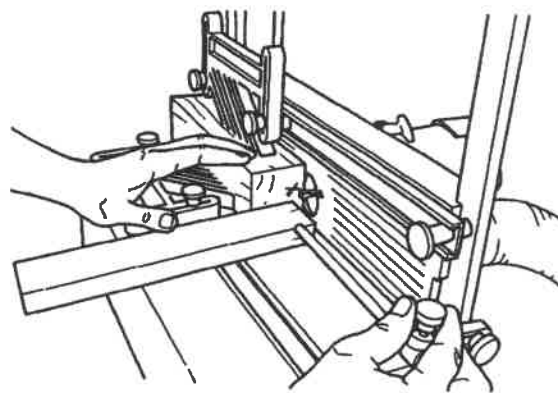

Fig. E-7
4. Place the leg against the infeed side of the bit, as in Fig. E-7. Place a rail between the stop rod and the leg. Make sure the rail does not touch the bit. Adjust the stop rod so that it touches the rail, then lock it, shown in Fig. E-7.